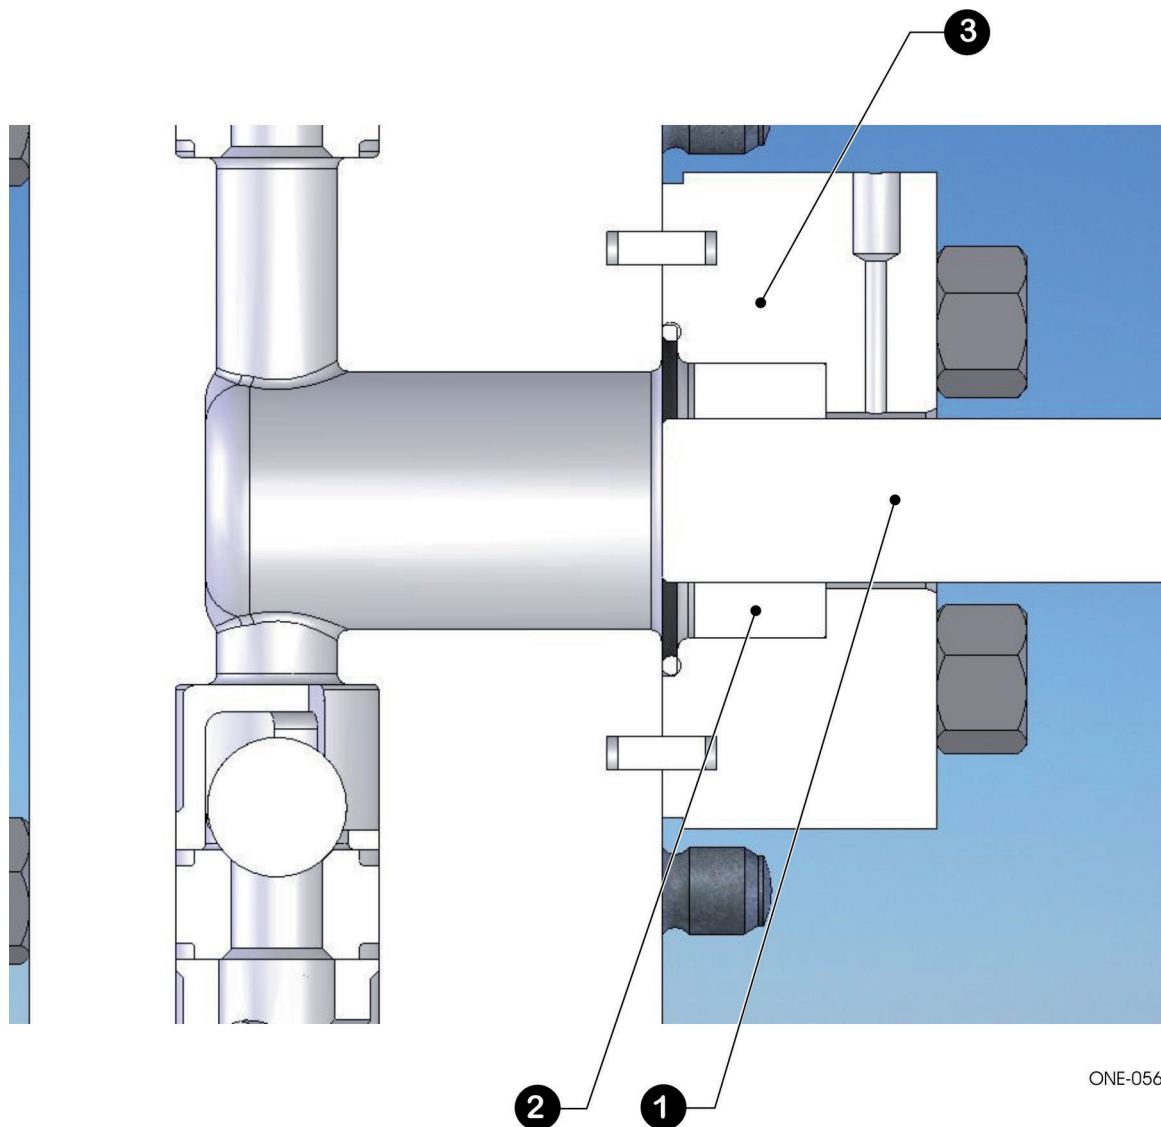

FIG. 7-12
Referring to Fig. 7-12, after having removed the pistons (1), use the extractor supplied to extract the packing (2), in accordance with the following procedure:
- insert the extractor into the packing container flange (3).
- extract the packing (2).